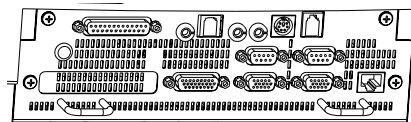

Figure 4-5: Screw placement for drawer assembly
2. Remove the screws (refer to Figure 4-5 below) that attach the rear panel to the monitor.